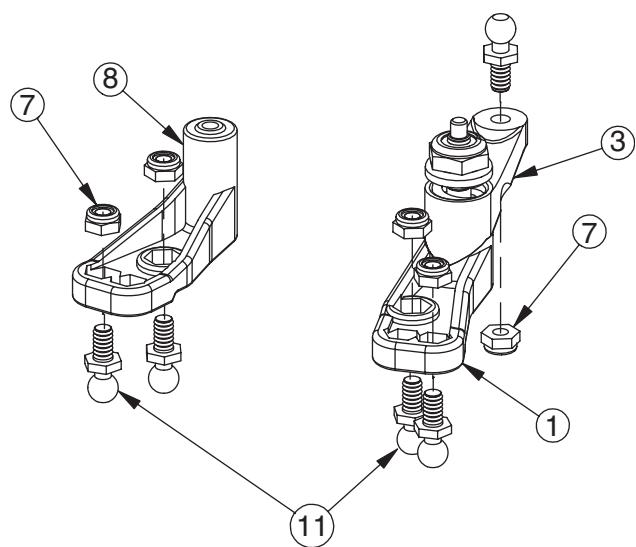

Figure A-2
1. Insert a 4-40 Mini-Locknut (7) into the outer hex area in the Servo Saver Bottom (1) and steering Idler Arm (8) as shown in Figure A-2. Thread a 3/16" Ball Stud (11) through the outside hole in the Servo Saver Bottom and steering Idler Arm and into the Nuts, and tighten. Insert a 4-40 Mini-Locknut into the hex area, on the underside of the Servo Saver Top (3). Thread a 3/16" Ball Stud through the hole in the Arm, into the Nut, and tighten.
2. Insert a 4-40 Mini-Locknut into the hex areas in the rear holes of the Servo Saver Bottom and the steering Idler Arm as shown in Figure A-2. Thread a 3/16" Ball Stud through the Arms, into each Nut, and tighten.